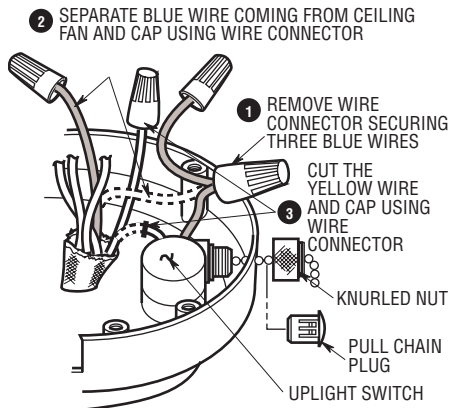

Figure 12
- 3. **For Ceiling Fan Models CF2400, CF4500 and CF4800 Only.** Remove the wire connector joining the three blue wires. (Figure 12). Separate the blue wire coming from the ceiling fan and cap this wire using a wire connector (supplied). On Models CF4500 and CF4800 only, cut the yellow wire coming from the uplight switch; cap the end of this wire coming from the center of the motor using a wire connector. On Model CF2400 only, remove the wire connector joining the two yellow wires; cap the yellow wire coming from the motor using a wire connector (orange wire on older models). Remove the knurled nut securing the uplight switch to the switch housing and remove the uplight switch.